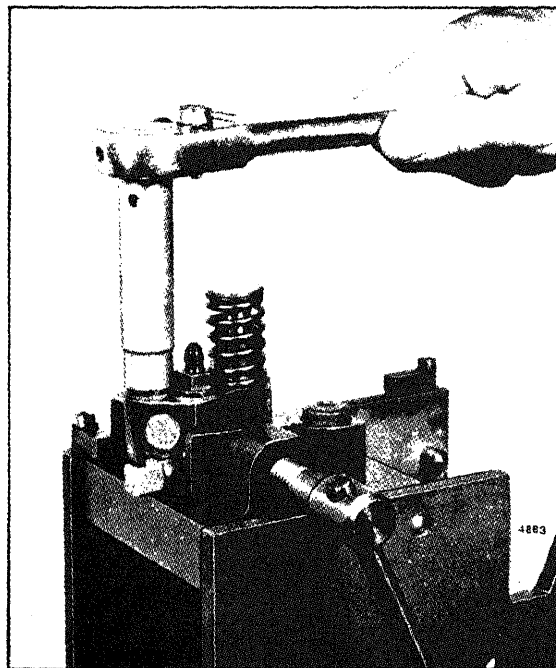

Fig. 23 - Removing or Installing Filter Cap
1. Support the injector upright in injector holding fixture J 22396 (Fig. 23) and remove the filter cap gaskets and filters.